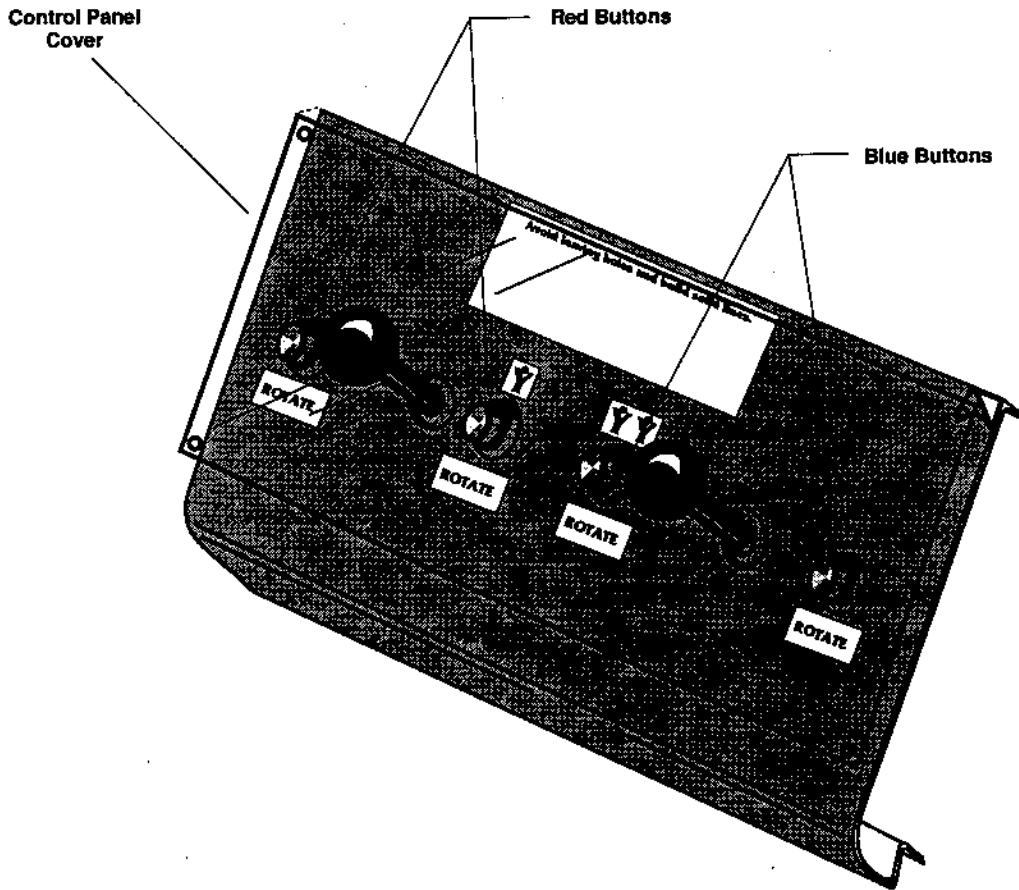

Figure 1-2 Converting the Control Panel
2. Determine the location of the player pushbuttons and joysticks on the control panel. (See Figure 1-2.)
4. Install the button labels on the control panel. (See Figure 1-2.)
5. Install the instruction label (part no. 046506-01) on the control panel. (See Figure 1-2.)
6. Cut holes into the cover to match the holes cut into the control panel. Then trim as required to protect the control panel overlay and labels. (See Figure 1-2.) **Note:** You can use the new cover to protect unused holes in the control panel.
8. Install the red player control buttons (part no. 178237-001) for the left player. (See Figure 1-2.)
9. Install the blue player control buttons (part no. 178237-005) for the right player. (See Figure 1-2.)